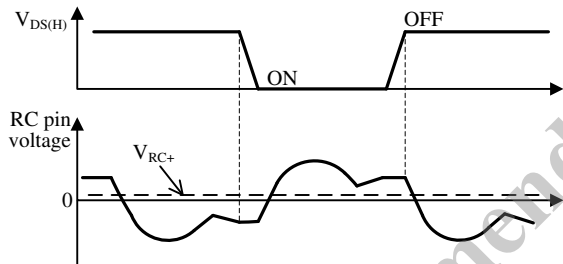
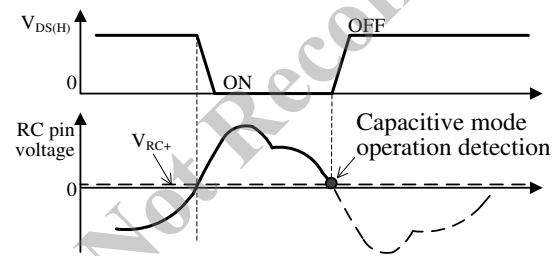

Figure 8-23. RC Pin Voltage in Inductance Area
Figure 8-24. RC Pin Voltage in Capacitance Area
Figure 8-23 shows the RC pin waveform in the inductance area, and Figure 8-24 shows the RC pin waveform in the capacitance area.
In the inductance area, the RC pin voltage doesn't cross  $V_{RC} = +0.155\text{ V}$  in the downward direction during the on period of Q(H) as shown in Figure 8-23.
On the contrary, in the capacitance area, the RC pin voltage crosses  $V_{RC} = +0.155\text{ V}$  in the downward direction. At this point, the capacitive mode operation is detected. Thus, Q(H) is turned off, and Q(L) is turned on, as shown in Figure 8-24.